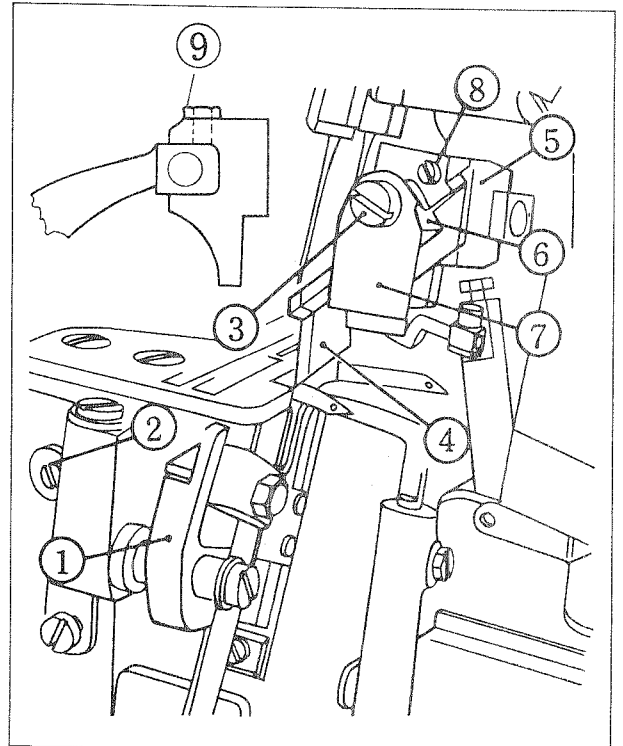

Fig. 15-1
- b) Cutting length adjustment (Fig. 15-1)
Replace the upper knife or adjust its height after loosening the upper knife presser plate ⑧ (Fig. 15-1).